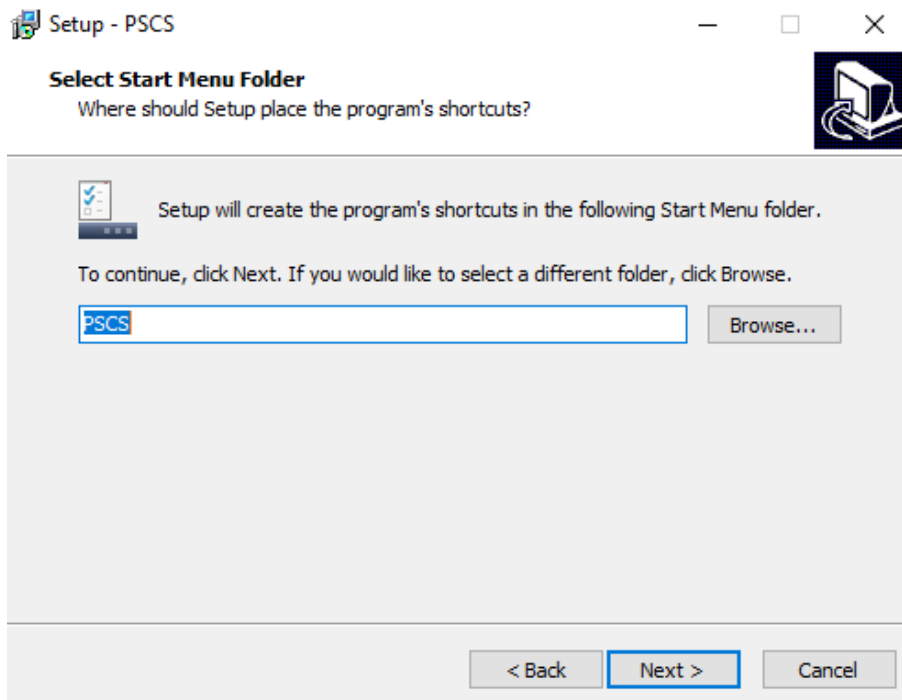

Figure 7.6
6. Select a location for the software shortcut. Figure 7.6